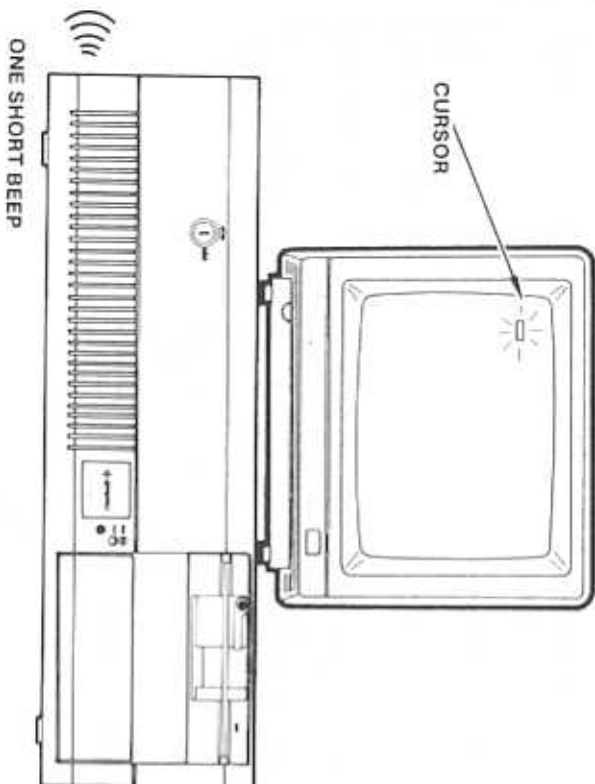

Figure 5-8. System Startup Test - Beep and Monitor
4. If all the self-tests are good, the system issues one short beep. The cursor is displayed in the upper left-hand corner of the display monitor (Figure 5-8) and the drive A in-use light turns on. Then the A>DIAGX message is displayed (see section 5.1).